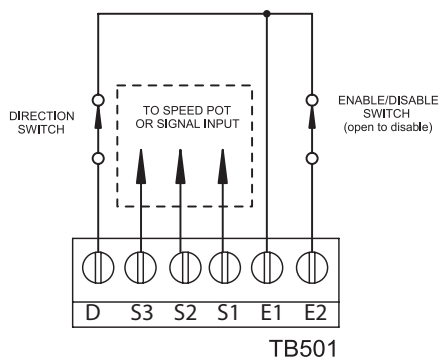
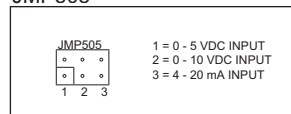

Figure 11. Signal and Optional Switch Connections for 170-543-0004
Figure 12. Jumper Settings--JMP504 and JMP505
Connect a single-pole, single-throw DIRECTION switch between the (D) and COMMON (E1) terminals as shown in Figure 11 (page 20). Opening the switch will cause the motor to rotate in the forward direction; closing the switch will reverse motor rotation. The DIRECTION input is isolated.
Drives can be configured to follow an isolated or a grounded (non-isolated) voltage or current signal. To configure the drive to follow a voltage or current signal, connect the signal leads to the S1 and S2 terminals on TB501 as shown in Figure 11 above. Ensure that the following jumper terminals are properly set as shown in Figure 12 (page 21).